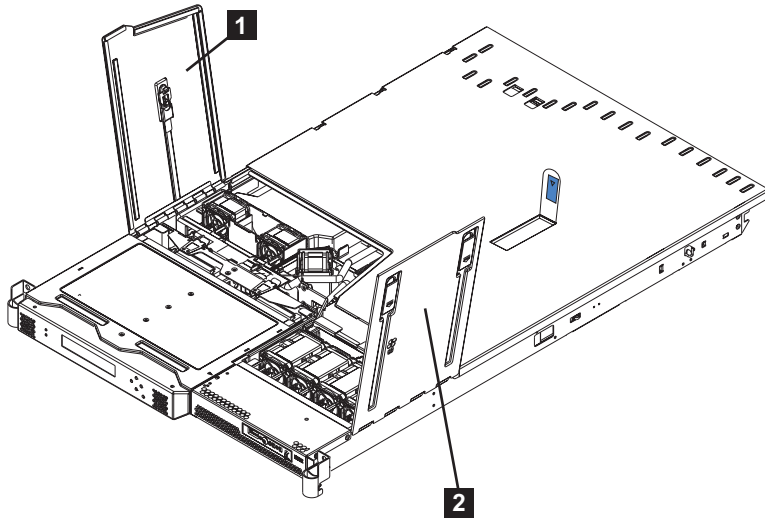

Figure 82. SAN Volume Controller 2145-8F2 or SAN Volume Controller 2145-8F4 with fan doors open
3. Open fan door A (**1** in Figure 82) of the node.